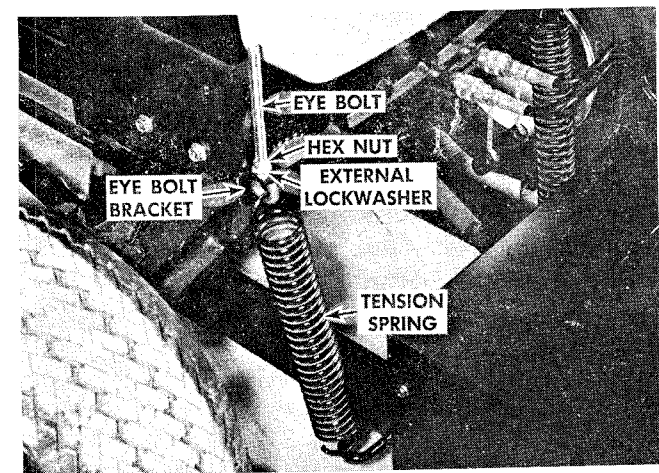

FIGURE 10
8. Hook one end of tension spring into eye in side of push arm frame. Hook other end of tension spring through eye bolt. Place eye bolt through spring bracket and secure with external lockwasher 3/8 and hex nut 3/8-16. Tighten nuts on both eye bolts all the way to the bottom of the thread. See figure 10.